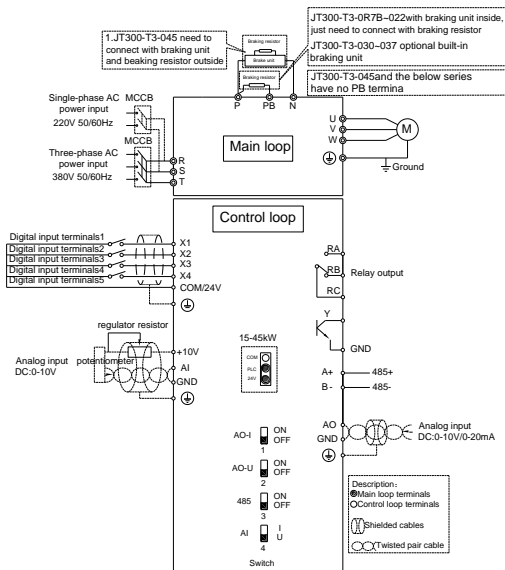

Figure 3-2 Schematic diagram of 15-45KW wiring
- 3) The 15-45KW connection mode of JT300 series frequency converter is shown in figure 3-2;